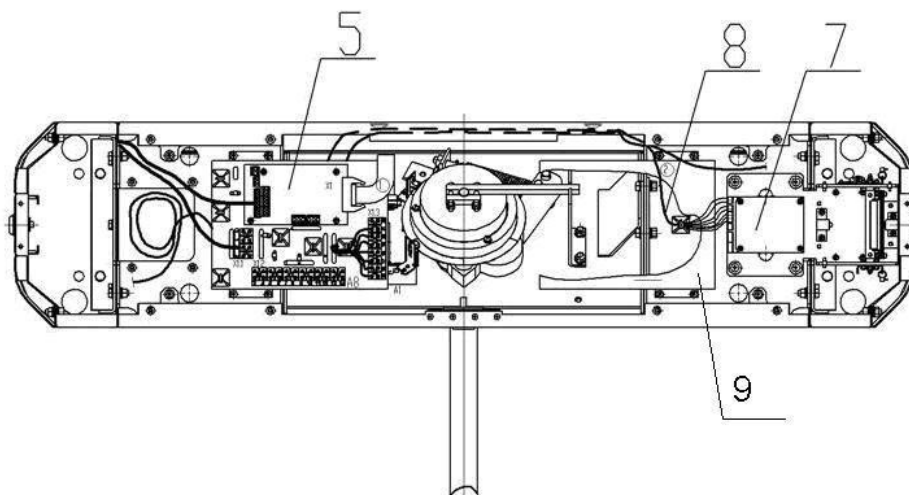
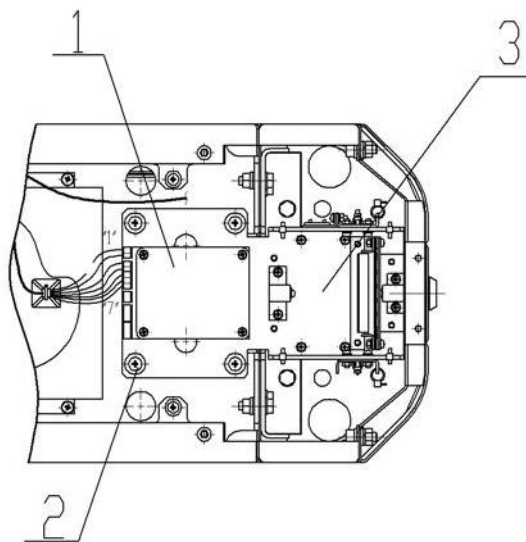

Figure 7 – Cable routing inside the TBC-01 turnstile housing:
Figure 8 - Card capture reader mechanism
Prepare a cable raceway for cables if cables are laid concealed under floor. Install and fix the turnstile housing only after all cables inside the turnstile housing and in electric raceways are laid. Cable routing inside the turnstile housing is shown in Figure 7.
To reorientate the card capture reader mechanism (3, Fig. 8), i.e. to install it to the side of the Reader № 2 (Ref. Fig. 7) rather than to the side of the Reader № 1 proceed as follows:
- Disconnect the card capture reader cable (8, Fig. 7) from a side of the card capture reader control board;
- Dismantle the card capture reader mechanism (3, Fig.8, – is fixed with 4 bolts M5x20, 2, Fig. 8) and install it to the opposite side of the turnstile, fixing it in the corresponding place with the same bolts;
- Reposition the card capture reader cable (8, Fig.7) to the side of the reader №1. Use self-adhesive cable tie mounts and nylon cable ties from the standard delivery set to fix the cables;
- Connect the cable of the card capture reader (8, Fig.7) to the card capture reader control board in accordance with a layout (Figure A.2 Appendix A) and Figure 3.2;
The turnstile design has the place designated for mounting of an ACS controller. The ACS controller is mounted on a bracket 9 Figure 7. Maximum possible size of the mounted board is 160x150x35 mm.